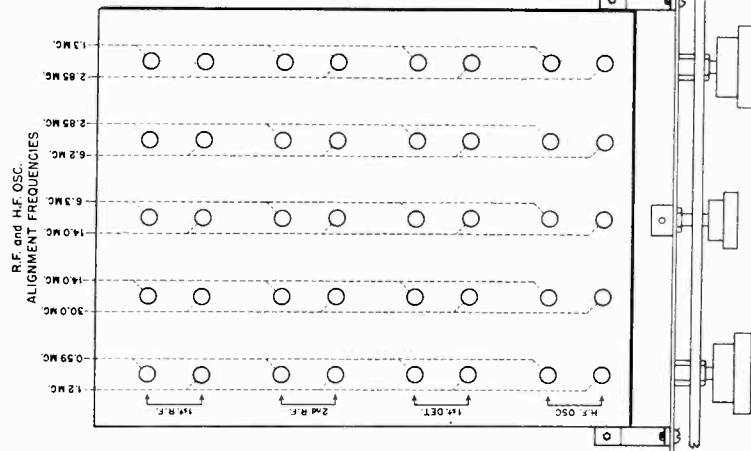

Fig. 13—R.F. and HF. osc. alignment frequencies and location of adjustments.
a. **Signal Generator:** This should be an accurately calibrated instrument producing amplitude-modulated radio-frequency signals. In addition to 455 kc. (the IF), the frequency range required of the signal generator depends on the tuning range of the receiver to be aligned. The RF alignment frequencies required for the Series 400-X Super-Pro are shown in Fig. 13. The second harmonic can generally be used when the fundamental frequency is not available. For example, a signal generator covering all frequencies from 455 kc to 15 mc could be used to check the highest frequency band by using the second harmonic of 15 mc to provide the 30 mc called for in Fig. 13. The signal generator should have an output of approximately 100 microvolts and an output impedance of approximately 100 ohms for best results when aligning the RF and HF Oscillator circuits. For IF alignment these values are not critical. The frequency calibration of the signal generator is extremely important if the Receiver dial calibration is to be correct.
(1) Accurate calibration of the signal generator is not required to check these adjustments. Modulation of the signal generator, while convenient, is not strictly necessary. Input to antenna terminals should be through 100 ohms (approximate) including output resistance of signal generator. If signal generator is modulated, Receiver controls should be set as for IF alignment; if unmodulated, set BEAT OSCILLATOR to 2 (either side) and SIGNAL-MOD-CW to CW. Adjust SENSITIVITY for half-scale reading on output meter when signals are exactly in tune.
(2) Starting with 2.85-6.3 mc band, set main dial at 6.3 mc (BAND SPREAD at 100) and adjust frequency of signal generator for peak deflection of output meter. Then check setting of trimmer marked 1st DET 6.3 mc (Fig. 13). Repeat this procedure on trimmers designated as 2nd RF and 1st, RF in same row. If readjustments on one of these settings greatly increases output meter reading, alter SENSITIVITY slightly to reduce reading to half-scale. After each adjustment check tuning of Receiver to make sure test signal is still accurately tuned. BAND SPREAD may be used as a vernier for this purpose.
CAUTION: THIS TUNING CHECK IS EXTREMELY IMPORTANT AT HIGH END OF 6.3-14.0 MC AND 13.4-30.0 MC BANDS WHERE THERE IS SOME SLIGHT INTERACTION BETWEEN 1st DET AND HF OSC CIRCUITS. After checking the three trimmers at high end of this band, turn main dial to 2.85 mc and retune signal generator to suit. Then check the three inductance adjuster settings marked 2.85 mc (Fig. 13) in the same row. Since adjustments at one end of a band also affect the other end of the band (as described under HF OSC alignment), repeat above procedure until no further improvement can be secured. The number of repetitions necessary depends on how much mistuning existed initially. Other bands may be checked in the same manner.
(1) To correct dial calibration, refer to alignment chart (Fig. 13) for location of HF oscillator adjustments as well as signal frequencies at which settings should be made. The output of the signal generator should be unmodulated and SIGNAL-MOD-CW switch on Receiver turned to CW. Set BEAT OSCILLATOR at 0, AUDIO GAIN at 10, AVC-MANUAL on MANUAL, BAND WIDTH at 16. Disconnect output meter and use earphones or loudspeaker to make necessary adjustments by "zero beat" method. Connect signal generator to antenna terminals for this test.
(2) If the 2.85-6.3 mc band is to be corrected, tune signal generator accurately to 6.3 mc. Tune in signal generator signal at 6.3 mc end of Receiver dial to zero beat. Notice approximate dial error. Turn main dial slightly toward 6.3 mc calibration line until beat note rises to a high pitch. Do not turn dial far enough to raise beat so high it cannot be heard. With alignment screwdriver adjust trimmer capacitor marked HF OSC 6.3 mc (Fig. 13) until beat is again zero. Turn main dial still farther toward 6.3 mc line and make a further adjustment of trimmer capacitor to return to zero beat. Repeat this process as often as necessary to bring dial to exactly 6.3 mc. (The main dial could be set at once on exactly 6.3 mc and trimmer turned enough at one time to produce zero beat, but the step-by-step method is recommended.) Now retune signal generator to exactly 2.85 mc and tune in signal-generator signal at low-frequency end of main dial and correct the calibration step-by-step as before, using inductance trimming adjustment HF OSC 2.85 mc (Fig. 13). When 6.3 mc signal from signal generator is again tuned in at other end of dial, it will be found that inductance adjustment at 2.85 mc has changed correction previously made at 6.3 mc. This is normal. Go back and forth several times from 2.85 to 6.3 mc in order to bring both ends of dial scale into exact agreement with the signal frequency. CAUTION: DURING THIS ADJUSTMENT BE VERY CAREFUL TO ADJUST THE SENSITIVITY CONTROL TO AVOID OVERLOADING.